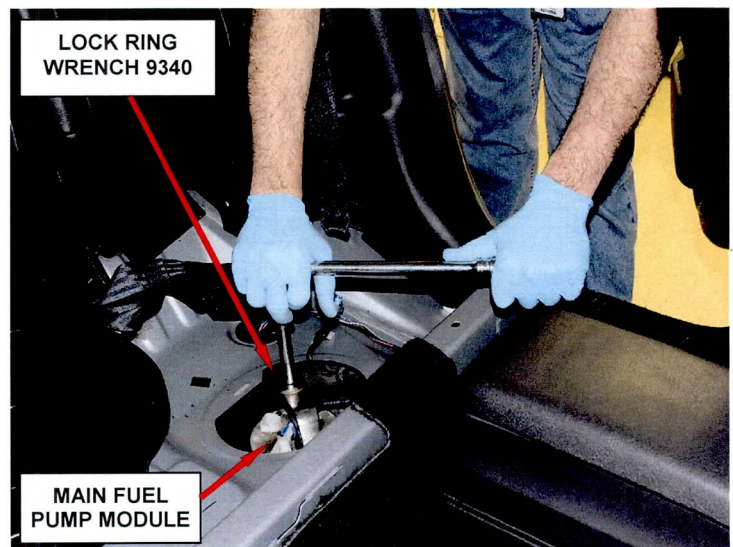

Figure 3 – Lock Ring Wrench 9340
6. Using the fuel pump module Lock Ring Wrench 9340 or equivalent, remove and save the main fuel pump module lock ring (Figure 3).
17. Seat the main pump module into the fuel tank, install the lock ring and secure the lock ring using Special Tool 9340 Lock Ring Wrench (Figure 3).